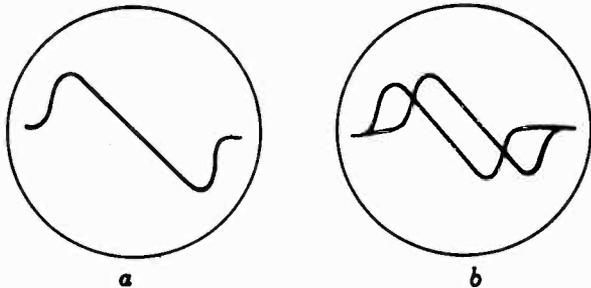

Fig. 5 - S Curves
4. Adjust signal generator frequency until 'S' curve (Fig. 5) is centered on the horizontal sweep. Curve may be reversed because of internal circuit of oscilloscope. Fig. 5b indicates when 'Phase Control' of oscilloscope is incorrectly adjusted.